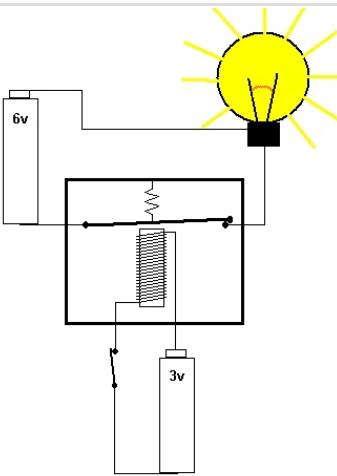

Figure 2: Relay on
- In Figure 2 the switch to the electromagnet circuit is switched on. When current from the 3 volt battery flows through the electromagnet, the electromagnet creates a magnetic field that attracts the armature to close the circuit to the lamp. Now current can flow from the 6 volt battery to the lamp, and the lamp lights up.
- If you look closely at Figure 2, you'll notice that while the armature-switch is closed allowing the current in the lamp circuit to